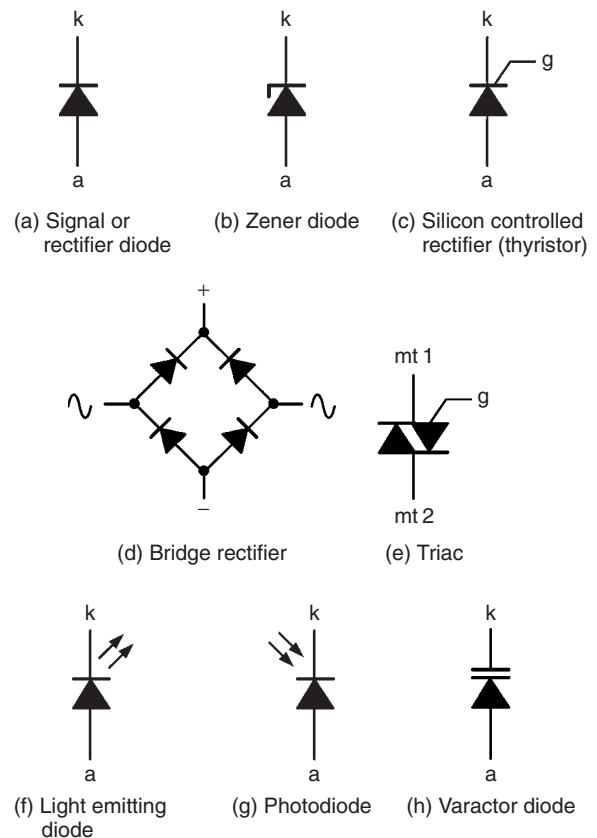
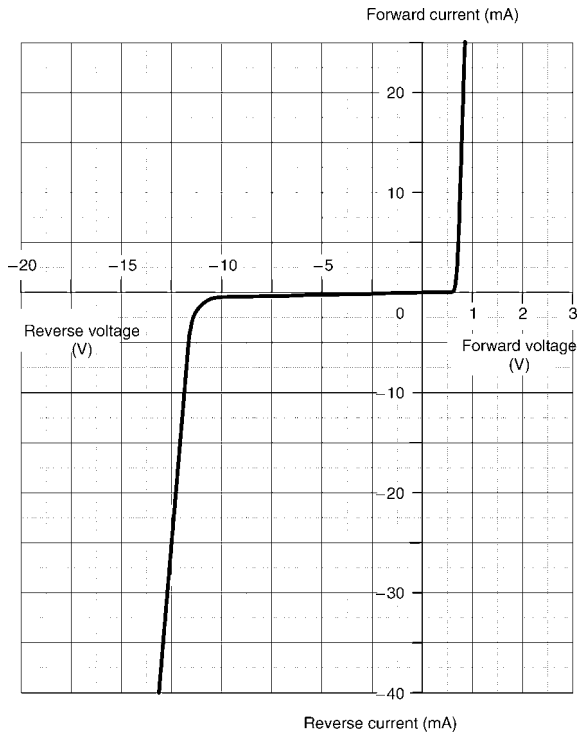
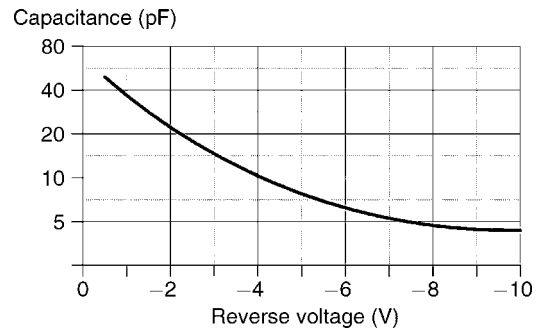

Figure 11.14
Figure 11.15
Figure 11.18
Various different types of diode are available for different applications. These include **rectifier diodes** for use in power supplies, **Zener diodes** for use as voltage reference sources, **light emitting diodes**, and **varactor diodes**. Figure 11.14 shows the symbols used to represent diodes in electronic circuit diagrams, where 'a' is the anode and 'k' the cathode.
**rectification**. Semiconductor diodes are commonly used to convert alternating current (a.c.) to direct current (d.c.), in which case they are referred to as **rectifiers**. The simplest form of rectifier circuit makes use of a single diode and, since it operates on only either positive or negative half-cycles of the supply, it is known as a **half-wave rectifier**. Four diodes are connected as a **bridge rectifier** – see Fig. 11.14(d) – and are often used as a **full-wave rectifier**. Note that in both cases, automatic switching of the current is carried out by the diode(s). For methods of half-wave and full-wave rectification, see Section 14.7, page 217.
Zener diodes are heavily doped silicon diodes that, unlike normal diodes, exhibit an abrupt reverse breakdown at relatively low voltages (typically less than 6 V). A similar effect, called **avalanche breakdown**, occurs in less heavily doped diodes. These avalanche diodes also exhibit a rapid breakdown with negligible current flowing below the avalanche voltage and a relatively large current flowing once the avalanche voltage has been reached. For avalanche diodes, this breakdown voltage usually occurs at voltages above 6 V. In practice, however, both types of diode are referred to as **Zener diodes**. The symbol for a Zener diode is shown in Fig. 11.14(b) whilst a typical Zener diode characteristic is shown in Fig. 11.15.
Like their conventional silicon diode counterparts, silicon controlled rectifiers have anode and cathode connections; control is applied by means of a gate terminal, g. The symbol for a silicon controlled rectifier is shown in Fig. 11.14(c).
diameter plastic packages and also in a 5 mm × 2 mm rectangular format. The viewing angle for round LEDs tends to be in the region of 20° to 40°, whereas for rectangular types this is increased to around 100°. The peak wavelength of emission depends on the type of semiconductor employed but usually lies in the range 630 to 690 nm. The symbol for an LED is shown in Fig. 11.14(f).
It was shown earlier that when a diode is operated in the reverse biased condition, the width of the depletion region increases as the applied voltage increases. Varying the width of the depletion region is equivalent to varying the plate separation of a very small capacitor such that the relationship between junction capacitance and applied reverse voltage will look something like that shown in Fig. 11.18. The typical variation of capacitance provided by a varactor is from about 50 pF to 10 pF as the reverse voltage is increased from 2 V to 20 V. The symbol for a varactor diode is shown in Fig. 11.14(h).